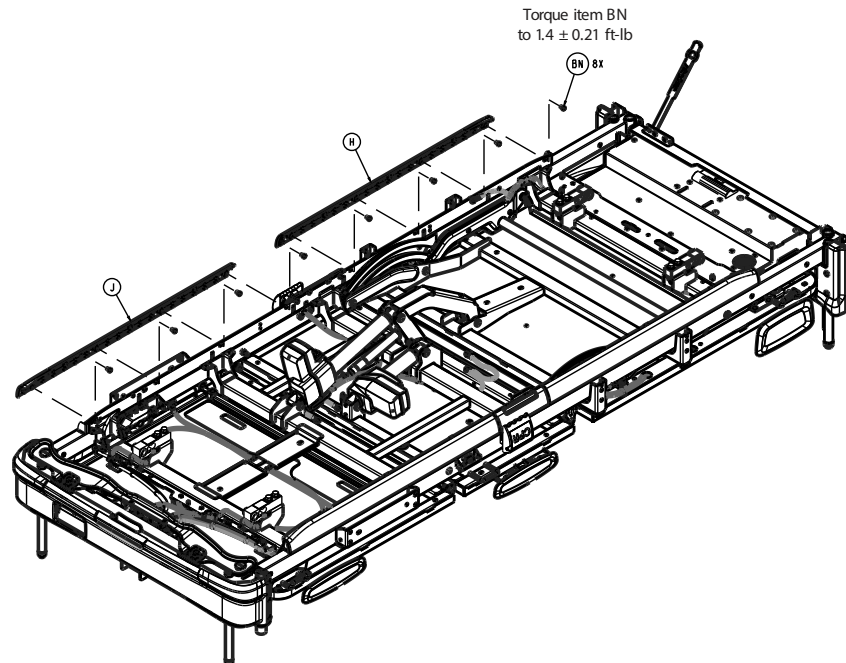

Figure 63 – Removing the cover
7. Using a T25 Torx driver, remove the four screws (BN) from the litter cable rail cover (H, J) on the foot end (Figure 63). Remove the cover. Save the screws and cover.